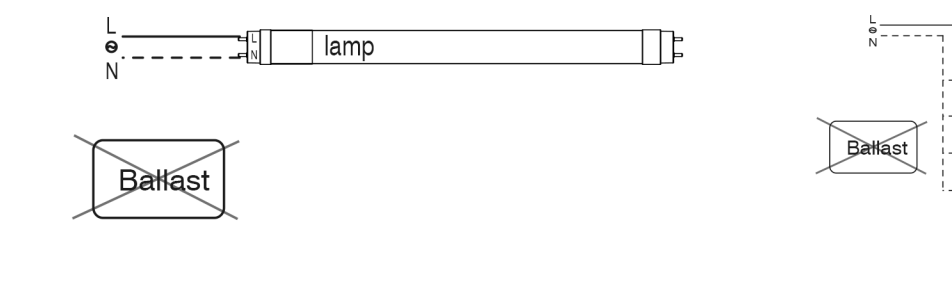
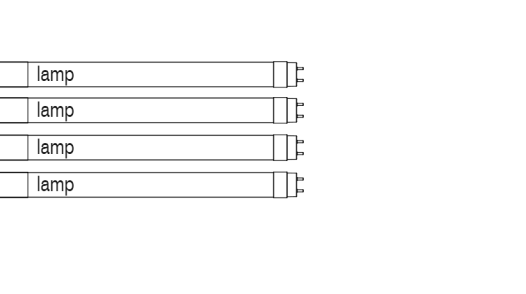

Fig. 8
Fig. 9
- 4. If installing a single tube refer to Fig. 8. If connecting multiple lamps, connect separate neutral wire into "Neutral out" from primary source lamp holder and connect that wire into "Neutral in" on the adjacent tube. See Fig. 9 below.